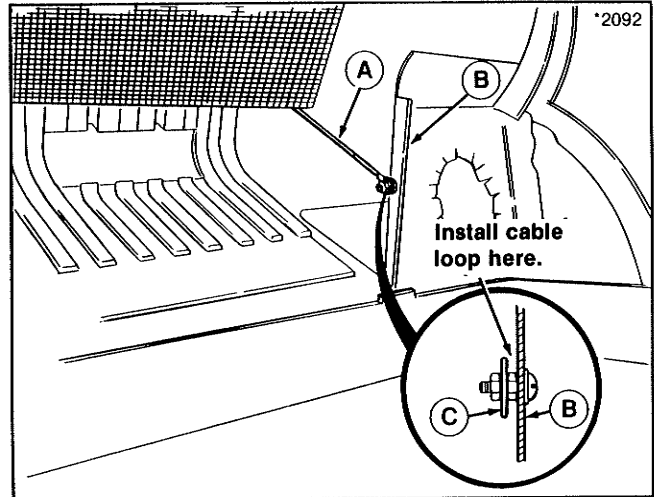

Figure 20.
28. Open cover and fasten cable (A, figure 20) to tube support (B) to prevent cover from going overcenter when opened. Loop end of cable fits over washer (C).